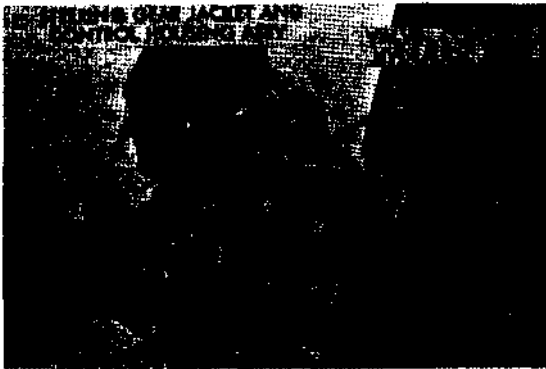

Figure 138. Removing Hydraulic Control valve assembly
- (2) Lift hydraulic control valve assembly (fig. 138) from control housing assembly.
- (1) Remove four cap screws (fig. 138) and lockwashers securing steering gearshaft, steering gear jacket, and control housing assembly to gear housing.
- (2) Lift off the assembly.
- (1) Place hydraulic control valve assembly (fig. 138) in position on the control housing assembly, making sure that the rounded portion of actuating lever (Y) fits into its groove in the cam. Install two socket-head screws (U), at upper end only, and tighten securely.
- (2) Remove spool cover (Q) and spool O-ring gasket (P), and loosen jam nut (D) locking eyebolt with bearing assembly (C) to spool (G).